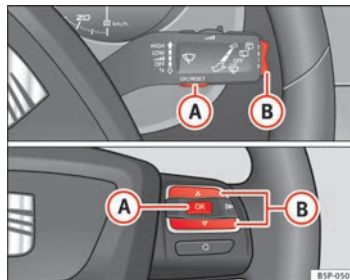

Fig. 43 Rocker buttons A and B. Steering wheel controls.
You can switch between the following displays in the multifunction display (MFI) by operating rocker switch ⇒ Fig. 43 (B) on the windscreen wiper lever. ►